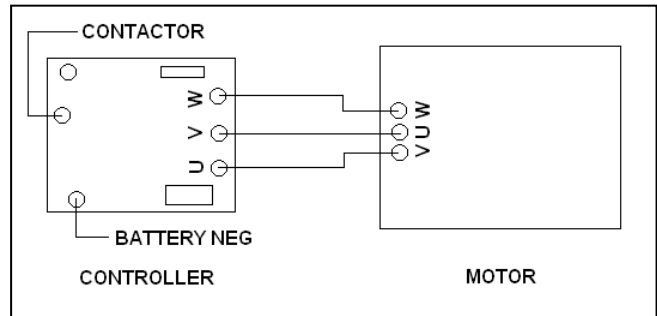

Figure 8-14
2. Install cables to controller terminals according to Figure 8-14 and to cable identification labels. Make sure there is a flat washer under the terminal ends of the cables. This will spread the load and help prevent the terminal ends from folding over.